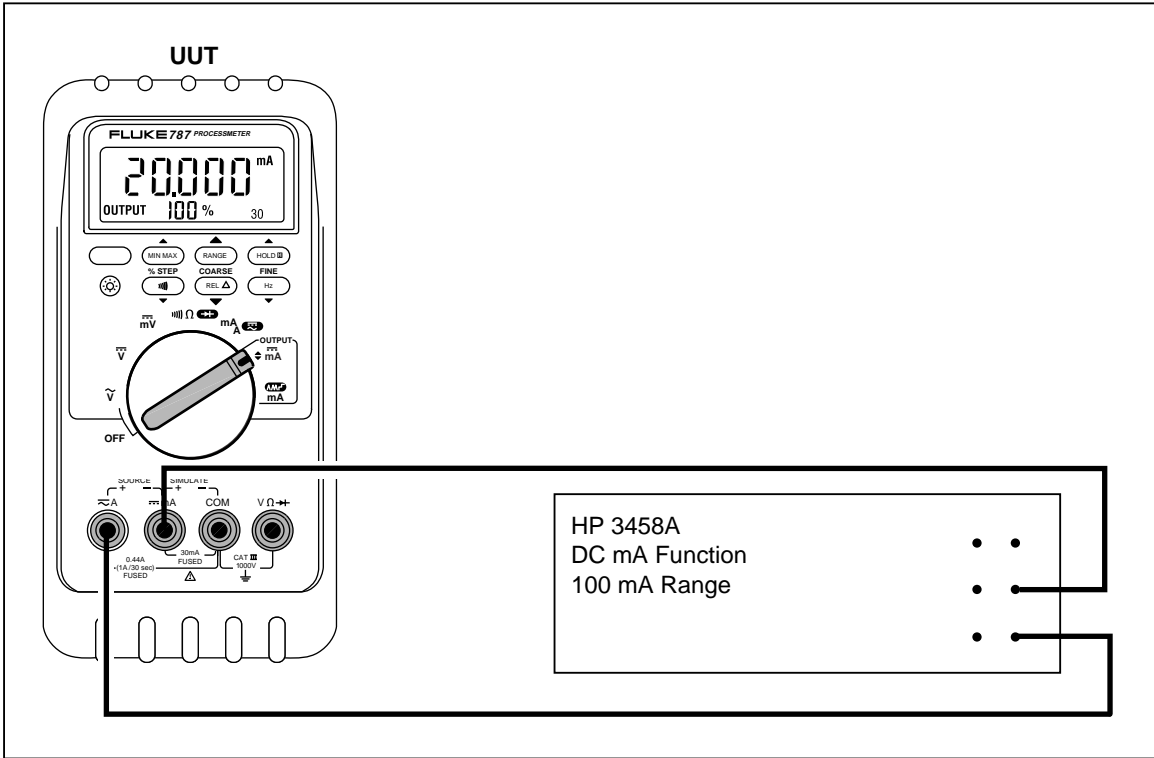

Figure 4. Current Sourcing Connections Using the HP 3458A
- 2. Connect the **SOURCE** + (**⌚A**) and – (**⌚mA**) terminals on the UUT to the current terminals on the multimeter as shown in Figure 4.